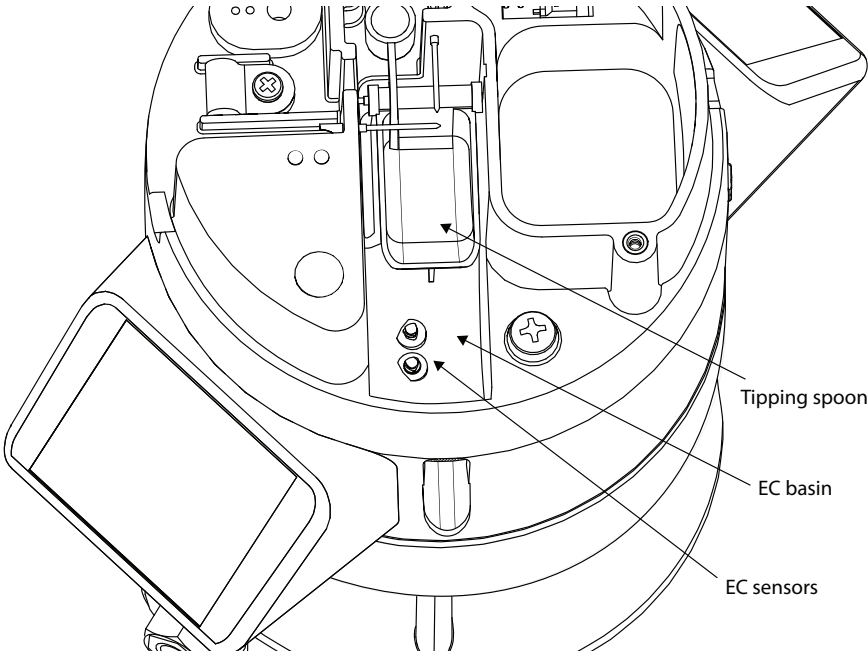

Figure 41 EC basin and EC sensor
Avoid more than light pressure while cleaning the tipping spoon (Figure 41 EC basin and EC sensor on page 65) and the sonic transducers (Figure 30)
- c. Locate the tipping spoon, precipitation basin, and EC Sensor (Figure 41).